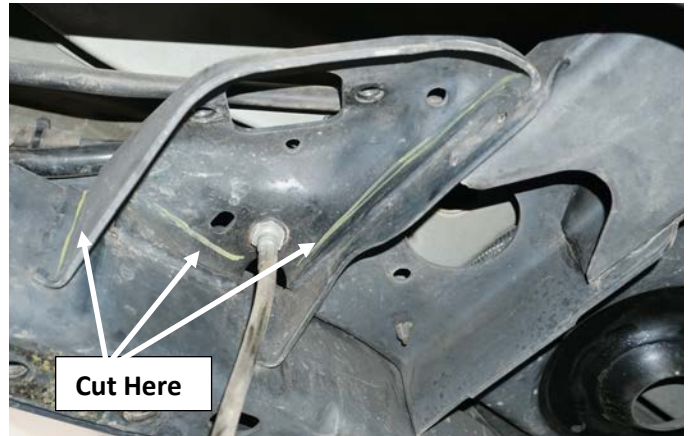

Fig 2. Rear Frame Shock Mount. Note that is not standard brake line routing and needs to be moved before cutting.
6. Cut off OEM frame shock mount. See Fig 2.